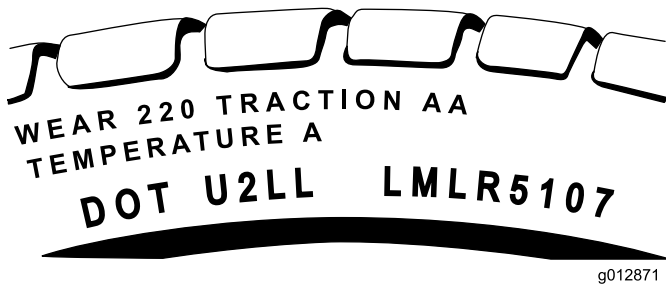

Figure 31
- Locate the DOT tire identification numbers (Figure 31).